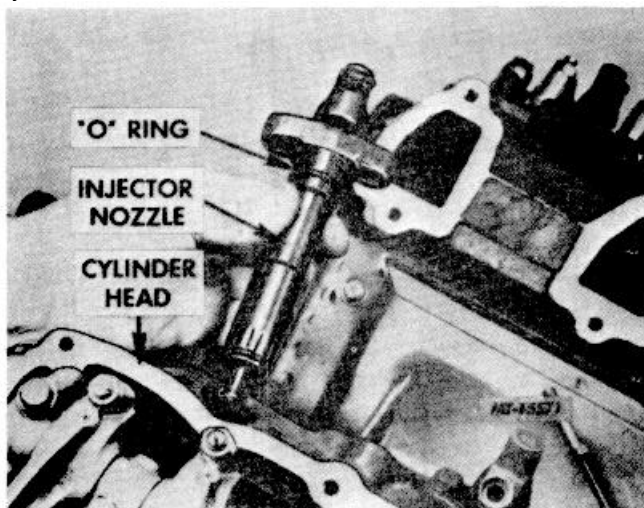

Fig. 42 Removing Injection Nozzle
36. Remove injection nozzle hold-down capscrews and pull nozzle assemblies (with "O" rings and gaskets) from cylinder heads (Figure 42). Be careful not to strike nozzle tips against any hard surface during removal. Cover nozzle assembly fuel inlet and leak-off openings with plastic caps to prevent entry of dirt.